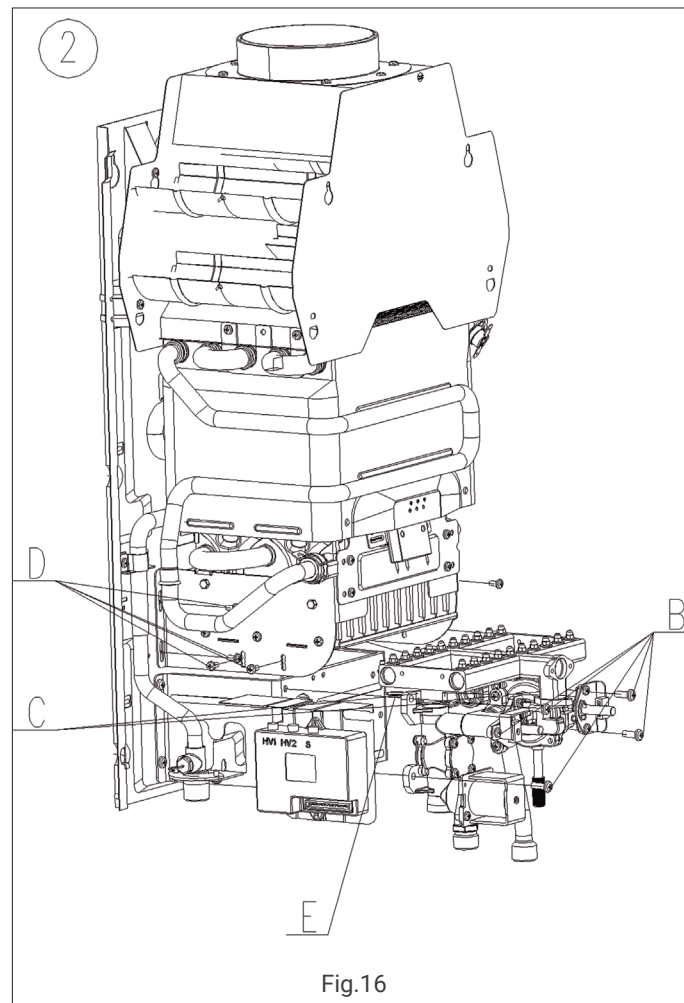

Fig.16
2. Unscrew the connection between water-gas valve and its support, remove the clip which fixes the connection of water valve and water inlet pipe of burner. Remove cable connection for water-gas valve and earthing ( fig.16,step B).
3. Unscrew the connection between water-gas valve and the gas manifold.( fig.16,step C).
4. Unscrew the connection between gas manifold and both side brackets in the burner. Loosen the rest screws for both sides brackets to completely release the manifold( fig.16,step D), then take out the manifold.
Operate the replacement slowly and make sure not to damage any of the sealing gaskets and put them in the right positions. It's recommended to have them replaced with new one ( fig.16,step E).